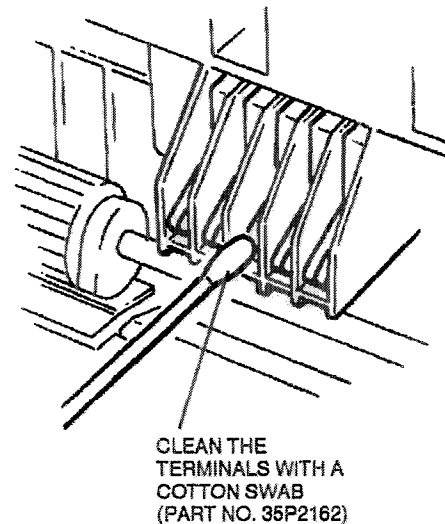

Figure 4. Front frame contacts cleaning
6. (Figure 4) Clean the contacts on the front frame.